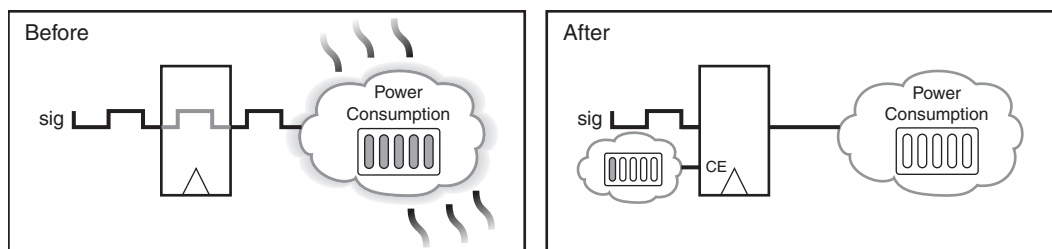

Figure 4-1: Intelligent Clock Gating Reduces Switching Power Consumption
These algorithms analyze the logic equations to detect, for each clock cycle, sourcing registers that do not contribute to the result. The software then utilizes the abundant Clock Enable (CE) resources available in the FPGA logic to create fine-grained gating signals which neutralize useless switching activity (see Figure 4-1). This intelligent clock and data gating is controlled with the **map -power\_high** option. Total core dynamic power reduction in excess of 15% is possible and in most cases the additional gating logic inserted does not affect performance.